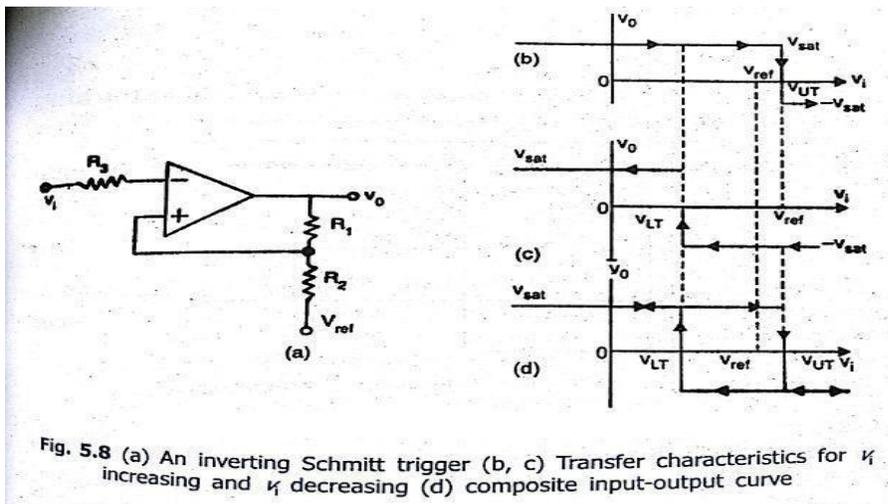

Fig. 5.8 (a) An inverting Schmitt trigger (b, c) Transfer characteristics for  $V_i$  increasing and  $V_i$  decreasing (d) composite input-output curve
- Figure 5.8 (a) shows a regenerative comparator. The circuit is also known as Schmitt trigger
- As long as  $V_i$  is less than  $V_{ut}$ , the output  $V_o$  remains constant at  $+V_{sat}$ . When  $V_i$  is just greater than  $V_{ut}$ , the output regeneratively switches to  $-V_{sat}$  and remains at this level as long as  $V_i > V_{ut}$  as shown in Figure 5.8 (b).
- The input voltage  $V_i$  must become lesser than  $V_{lt}$  in order to cause  $V_o$  to switch from  $-V_{sat}$  to  $+V_{sat}$ . A regenerative transition takes place as shown in Figure 5.8(c) and the output  $V_o$  returns from  $-V_{sat}$  to  $+V_{sat}$  almost instantaneously.
- The complete transfer characteristics are shown in Figure 5.8 (d).
- The resistor  $R_3$  in figure 5.8(a) is chosen equal to  $R_1 \parallel R_2$  to compensate for the input bias current.
- A non-inverting Schmitt trigger is obtained if  $V_i$  and  $V_{ref}$  are interchanged in figure 5.8(a).